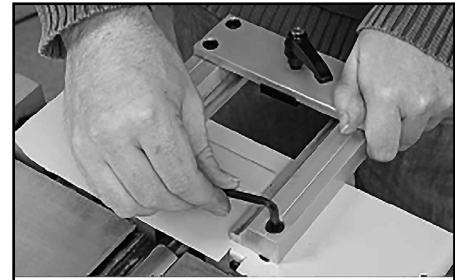

FIG. 3.9
1. Line up the mounting bracket pre-drilled holes with the threaded holes in the table to the rear of planer thicknesser and secure using the two cap head screws. (Fig.3.9)